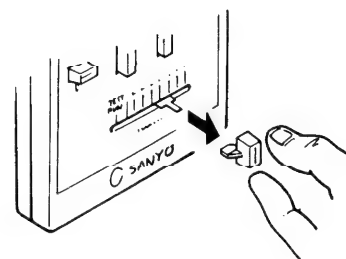

Fig. 38
- Pull off the thermostat knob. Fig. 38